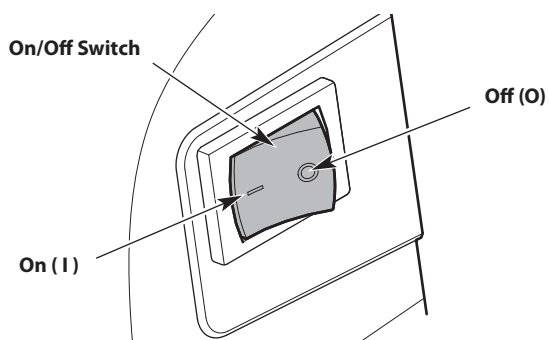

Fig. 11
**NOTE:** There is no need to turn the unit on. The On/Off switch is in the **On (I)** position at all times (Fig. 11).